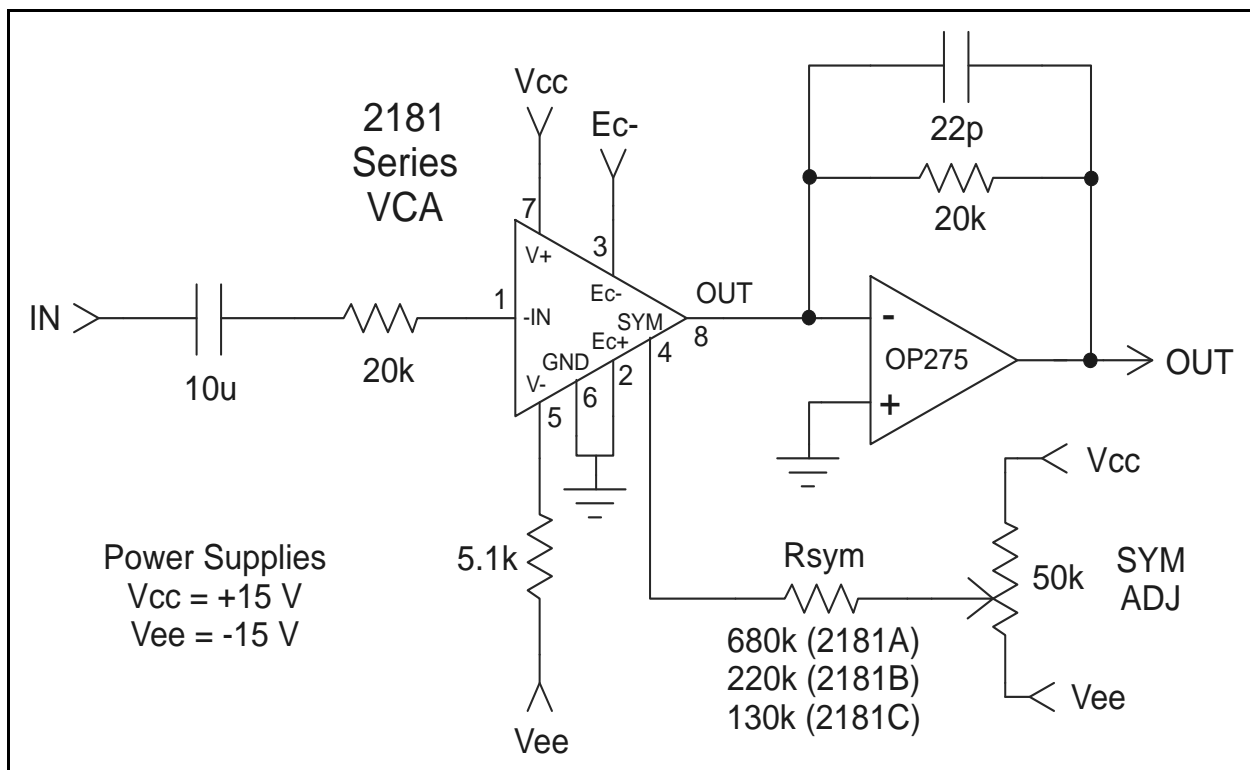
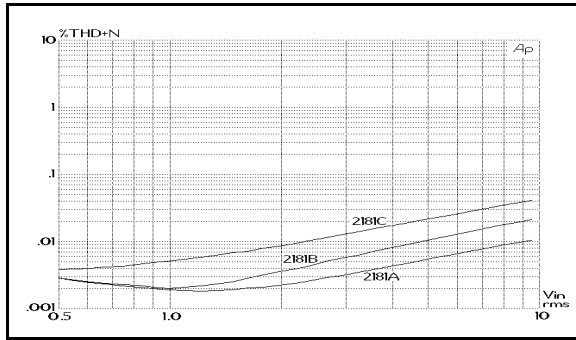
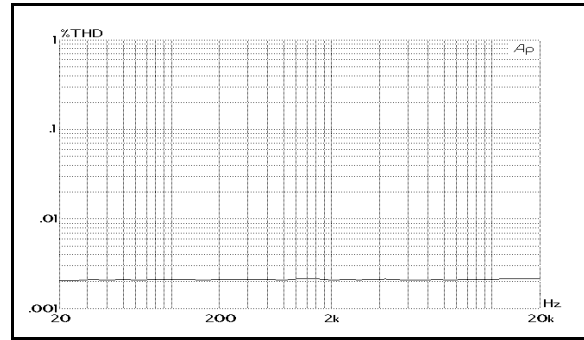
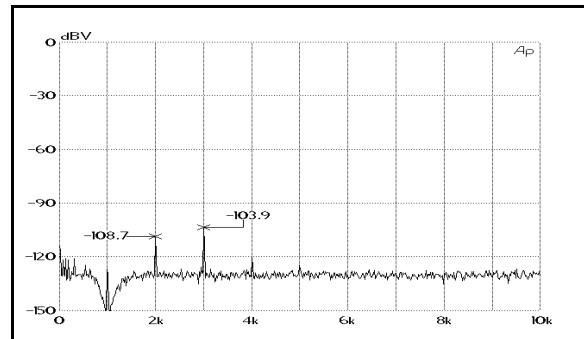

Figure 2. Typical Application Circuit
Figure 10. 1 kHz THD+Noise vs. Input Level, 0dB Gain
Figure 13. 2181A THD+N vs Frequency, 0dB gain 1kHz 1V
Figure 14. FFT of THD, Typical 2181A,
2. Unless otherwise noted, $T_A = 25^\circ\text{C}$, $V_{CC} = +15\text{V}$, $V_{EE} = -15\text{V}$. Test circuit as shown in Figure 2. SYM ADJ is adjusted for minimum THD at 1 V, 1 kHz, $E_C = -E_{C+} = 0$ V.
In normal operation, the output current is converted to a voltage via an opamp-based I-V converter, as shown in Figure 2, where the conversion ratio is determined by the feedback resistor connected between the output and inverting input. The signal path through the VCA and the output opamp is non-inverting.
The 2181-Series VCAs are intended to be adjusted for minimum distortion by applying a small variable offset voltage to pin 4, the SYM pin. Note that there is a 25 Ω resistor internal to the 2181 between pin 4 and pin 2. As shown in Figure 2, Page 3, the usual method of applying this offset is to use the internal 25 Ω resistor along with a larger value resistor to form a voltage divider connected to the wiper of a trim pot across the supply rails.
The 2181-Series VCA design, fabrication and testing ensure extremely good audio performance when used as recommended. The 2181 maintains low distortion over a wide range of gain, cut and signal levels. Figures 10 through 12 show typical distortion performance for representative samples of each grade of the part. At or near unity gain, the 2181 behaves much like a good opamp, with low distortion over the entire audio band. Figure 13 shows typical THD for a 2181A over frequency at 0 dB gain, with a 1 V input signal, while Figure 14 details the harmonic content of the distortion in a typical A-grade part.
The Input pin (pin 1) is a virtual ground with negative feedback provided internally (see Figure 5, Page 4). The input resistor (shown as 20 k Ω in Figure 2, Page 3) should be scaled to convert the available ac input voltage to a current within the linear range of the device. Generally, peak input currents should be kept under 1 mA for best distortion performance.
Refer to Figures 10 through 12 to see how distortion varies with signal level for the three parts in the 2181 Series for 0 dB, +15 dB and -15 dB gain. The circuit of Figure 2, Page 3 was used to generate these curves.
A designer may trade off noise for distortion by decreasing the 20 k Ω current-to-voltage converting resistors used at the input and output in Figure 2, Page 3. For every dB these resistor values are decreased, the voltage noise at the output of the OP275 is reduced by one dB. For example, with 10 k Ω resistors, the output noise floor drops to -104 dBV (typical) at 0 dB gain — a 6 dB reduction in noise because 10 k Ω is 1/2 of (6 dB lower than) 20 k Ω .
The Output pin (pin 8) is intended to be connected to a virtual ground node, so that current flowing in it may be converted to a voltage (see Figures 2 & 15). Choose the external opamp for good audio performance. The feedback resistor should be chosen based on the desired current-to-voltage conversion constant. Since the input resistor determines the voltage-to-current conversion at the input,
The SYM pin (pin 4) is actually a sort of additional positive-sense control port. It is provided to allow V_{be} mismatches in the core transistors to be adjusted after packaging and installation in the circuit board. It should only be used for this purpose. Connect pin 4 only to a high-impedance source as shown in Figures 2 and 15.